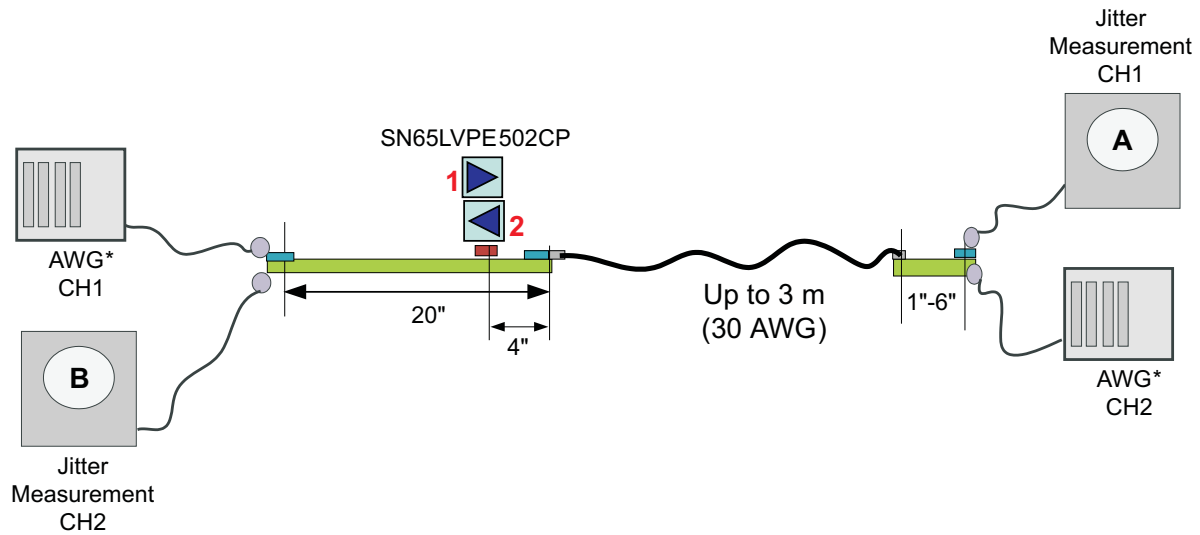

Figure 6. Jitter Measurement Setup
(1) Includes RJ at  $10^{-12}$  BER
(2) Deterministic jitter measured with K28.5 pattern, Random jitter measured with K28.5 pattern at the ends of reference channel in Figure 6, VID=1000mVpp, 5Gbps, -3.5dB DE from source
(3) UI = 200ps
(4) Rj calculated as 14.069 times the RMS random jitter for  $10^{-12}$  BER